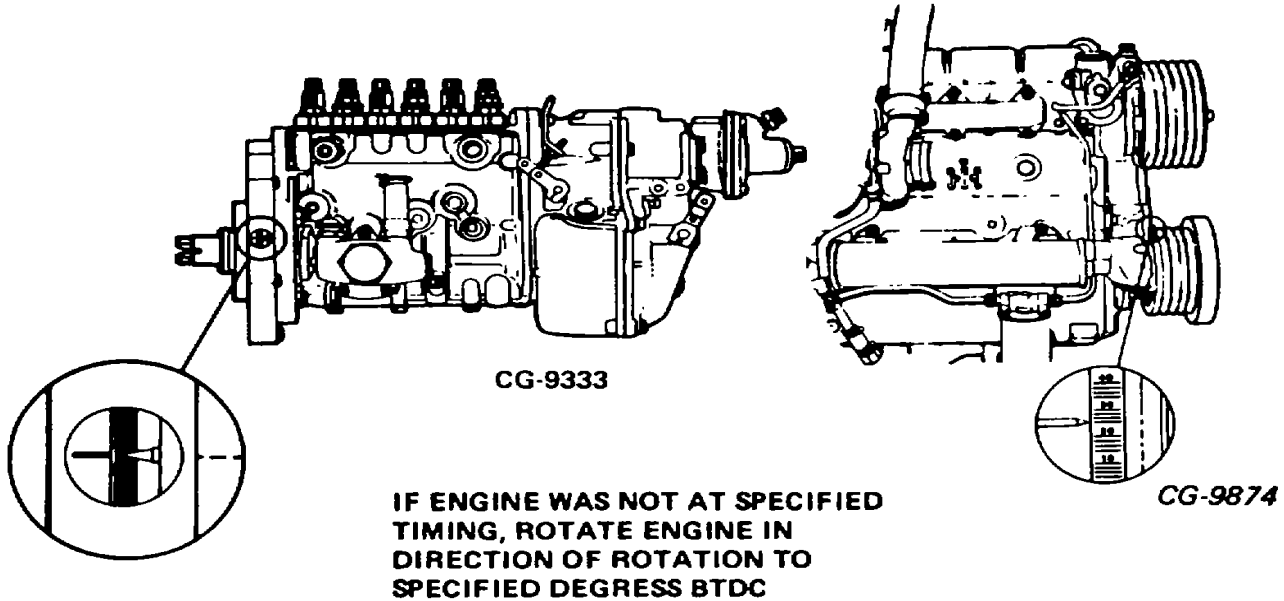

Figure 19. - Prepare to Remove Injection Pump
5. Turn engine slowly in normal direction of rotation until timing mark on hub is aligned with injection pump timing pointer (observe through mounting adapter, Figure 19). If engine is turned past timing mark, rotate engine counterclockwise at least 90 degrees to remove gear train backlash. Rotate engine until timing mark and pump timing pointer are aligned.